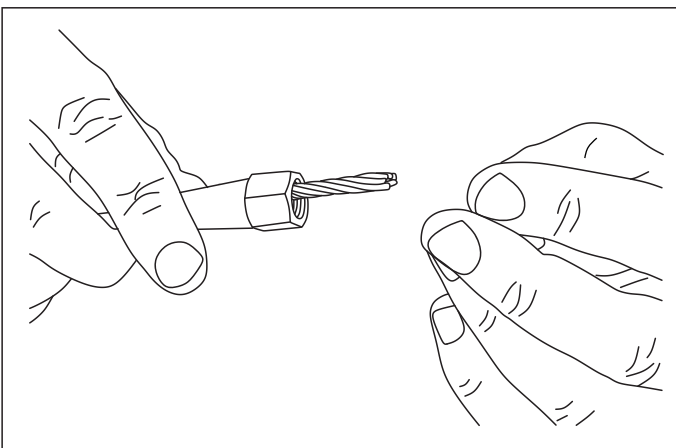

Fig. 6
- Insert a cone onto one end of the cable (Fig.6).